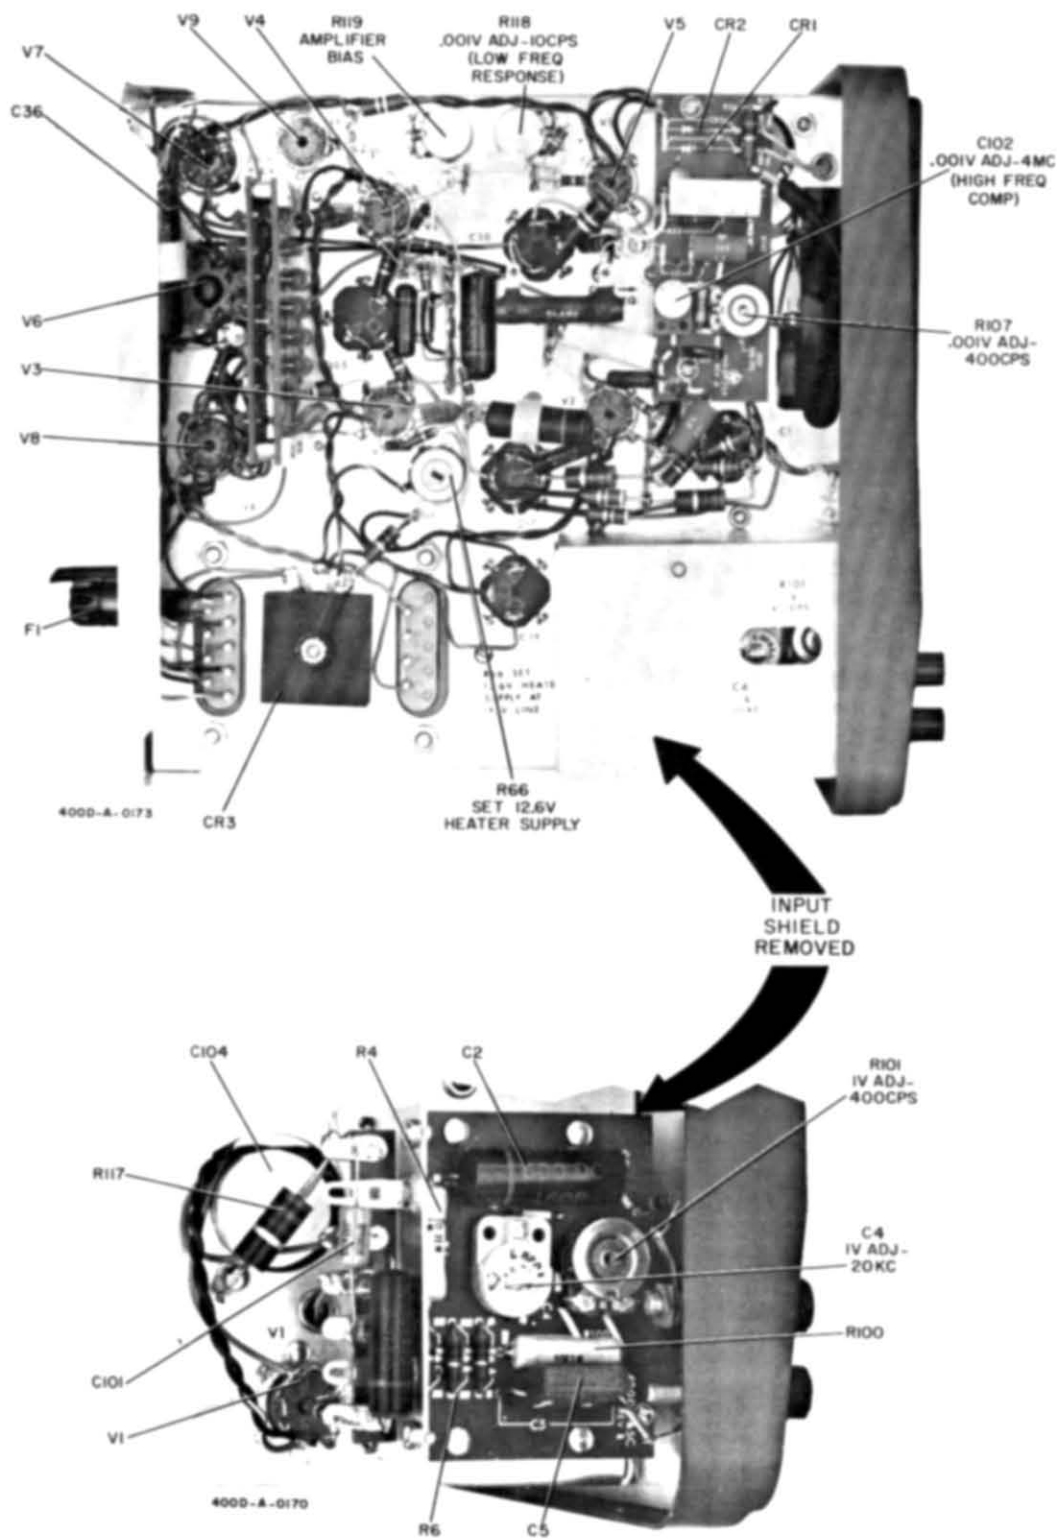
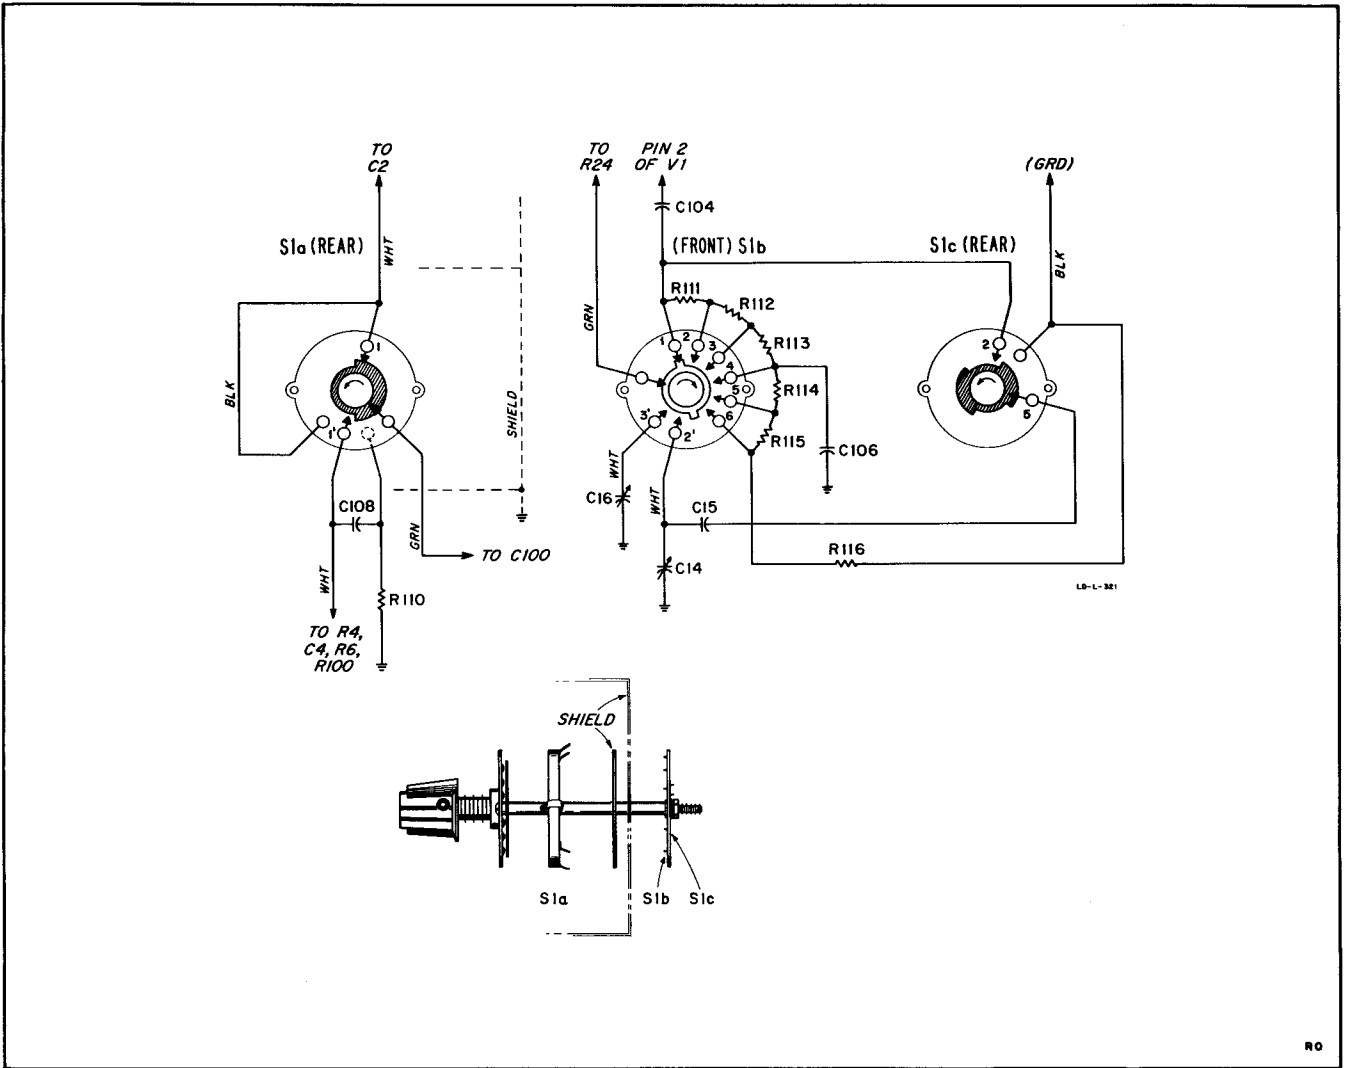

Figure 5-3. Left Side View of Voltmeter Chassis
Figure 5-9. Diagram of RANGE Switch
switch assembly. Use the following procedure. (Locate parts by referring to figures 5-3 and 5-4; RANGE switch connections are shown in figure 5-9.)
d. To test the .001 volt range, set the voltmeter calibrator to .001 volt and the voltmeter RANGE switch to .001. If necessary, adjust R107 (figure 5-3) to obtain a reading of exactly 1 on the 0 to 1 VOLTS scale on the panel meter of the voltmeter under test. This sets the gain of the amplifier at audio frequencies.
e. Set the RANGE switch on the voltmeter to the 1-volt range. Set the voltmeter calibrator to 1 volt, to test this range. If necessary, adjust R101 (figure 5-3) to obtain a reading of exactly 1 volt on the voltmeter. This sets the division ratio of the input voltage divider at audio frequencies.
l. If necessary adjust C102 (figure 5-3) to obtain a reading at 0.9 on the voltmeter under test. This sets amplifier gain at video frequencies.
r. On the 1-volt range of the voltmeter, measure frequency response at both 20 kc and 4 mc using a procedure similar to steps g through k. At 20 kc if necessary adjust C4 (figure 5-3) to obtain a reading of 0.9 on the voltmeter. At 4 mc if necessary pad the value of R6 (figure 5-3) to obtain a reading between 0.85 and 0.95 ($\pm 5\%$). R6 consists of several resistors connected in parallel. Increasing the value of one of these resistors raises the meter reading at 4 mc. The input shield must be in place on the voltmeter chassis when making this reading.